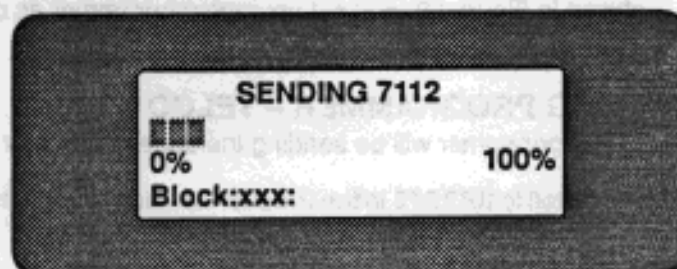

Figure 28: SENDING PROGRAMMER UPDATE PROGRESS
3. Press the white **ENTER** key. The message **WAITING for Handler Request...** is displayed. When the handler request from the Receiving Programmer is detected, the Sending Programmer transfers the requested handler. The progress of the handler transmission is displayed (see Figure 28). If the transfer is successful, the message **UPDATE SUCCESSFUL** is displayed. If the transfer is not successful, the message **UPDATE FAILURE** is displayed. The cursor returns to the **UPDATE** menu.
3. Wait until the phone rings, and then press the white **ENTER** key. The message **WAITING for Handler Request...** is displayed. When the handler request from the Receiving Programmer is detected, the Sending Programmer transfers the requested handler at 300 baud. The progress of the handler transmission is displayed (see Figure 28). If the transfer is successful, the message **UPDATE SUCCESSFUL** is displayed. If the transfer is not successful, the message **UPDATE FAILURE** is displayed. The cursor returns to the **UPDATE** menu. To update additional handlers, repeat steps 2 and 3.
3. One end of the RAM card has a shiny metallic strip, and the other end has a write-protect switch. Insert the metallic-strip end of the RAM card into the RAM card slot (see Figure 28) with the shiny metallic strip facing *down*.